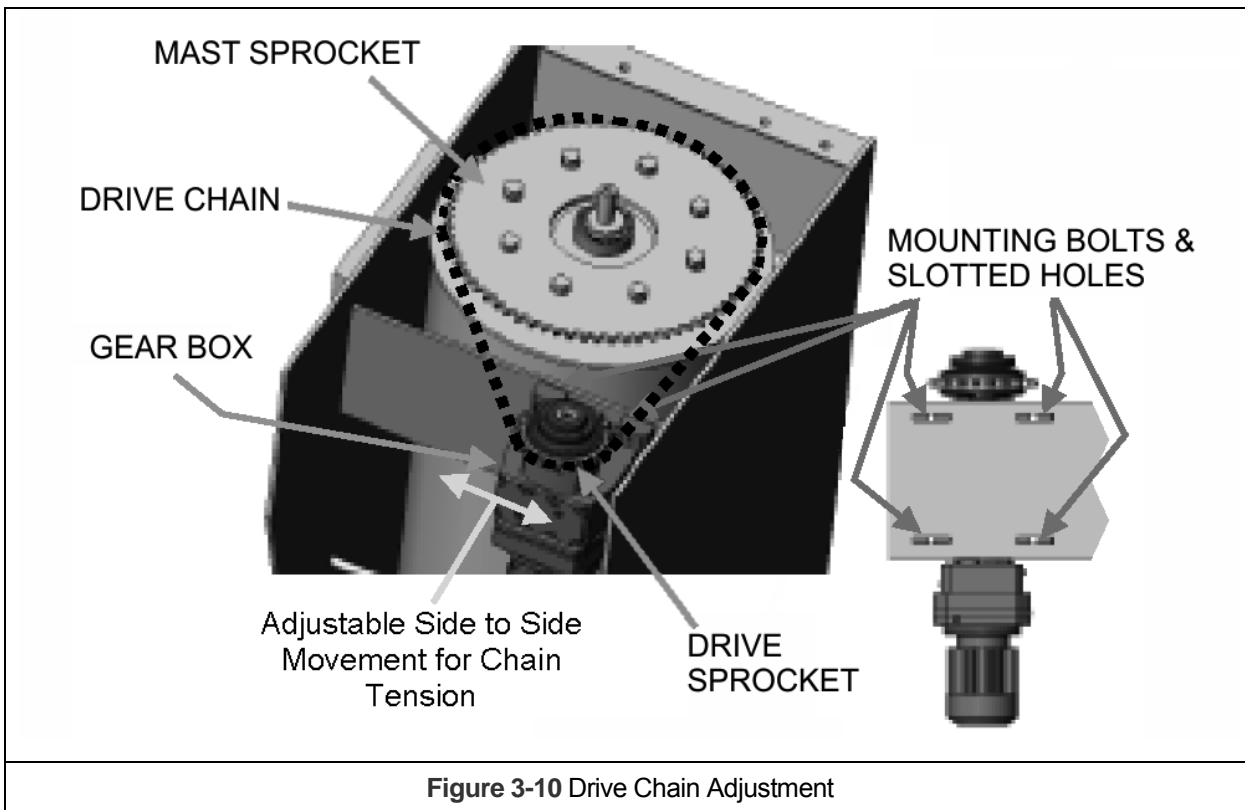

Figure 3-10 Drive Chain Adjustment
- 3.4.1 Loosen MOUNTING BOLTS for gear box. Move GEAR BOX inwards towards the center line of the MAST using the slotted holes. (see Figure 3-10)